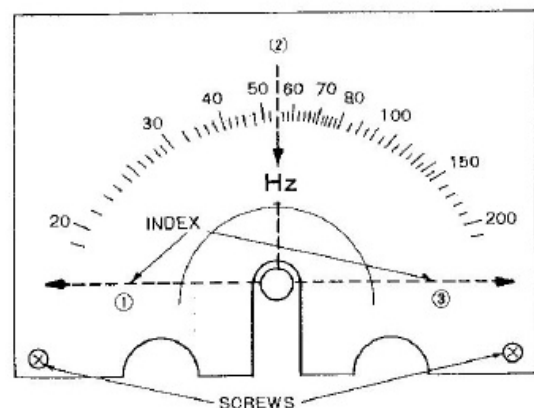

Fig. 17 Zero Setting of Pointer
- (1) Fix the variable capacitor in such manner that it provides the maximum capacity.
- (2) Adjust the coupler and the setscrew for pulley under the above condition so that the pointer is set to position ① in Fig. 17.
- (3) Move the pointer clockwise and check to see that the pointer is set completely to the index during at position ② and ③. If the pointer fails to set to the index, loosen the setscrews for the dial scale plate and adjust the scale plate until the pointer is set to the index as mentioned above.